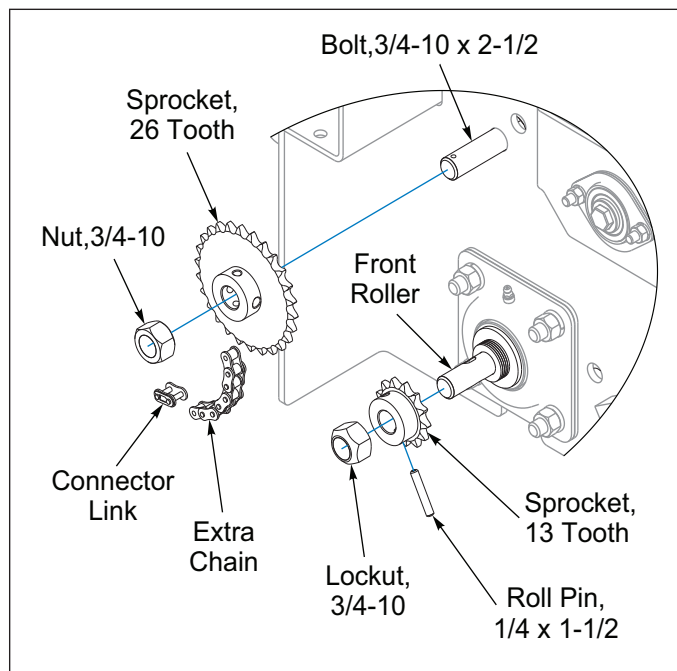

Figure 3-12: Speed Up Kit (1 of 2)
Seed rates can be doubled by using the 26 Tooth Sprocket and extra Chain Links located on the Seeder Frame Left End Plate. **See Figure 3-12.**
2. Remove 1/4 x 1-1/2 Roll Pin from the 13 Tooth Sprocket on the Front Roller. **See Figure 3-12.**